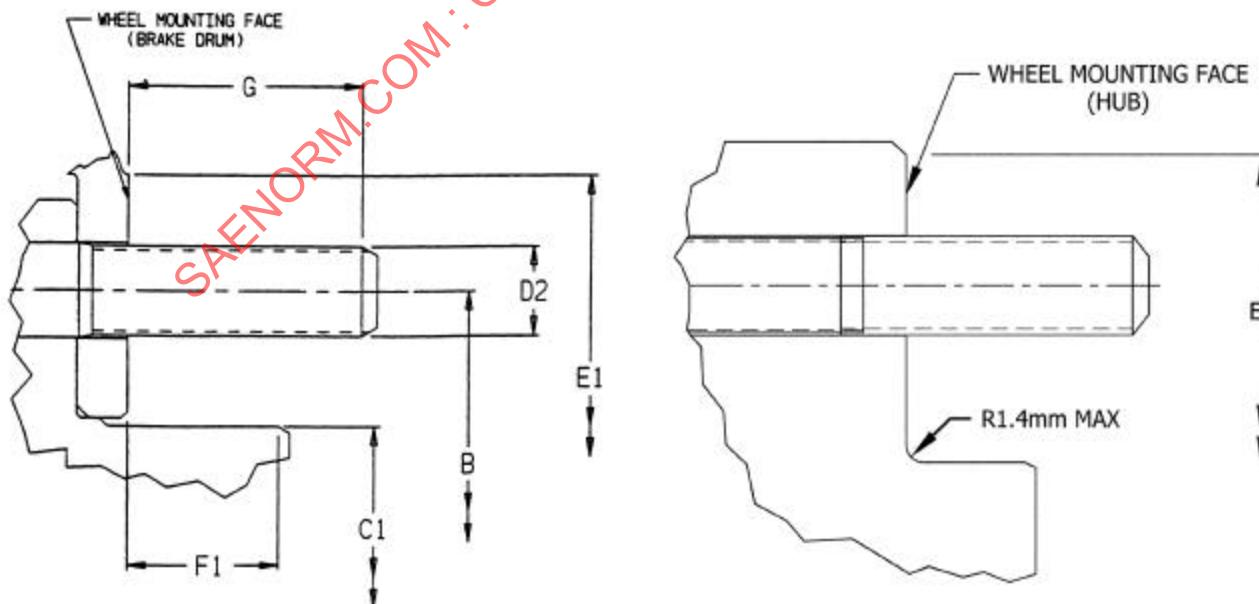

FIGURE 7—HUB OR DRUM INTERFACE DIMENSIONS
6.2.1 DEFINITIONS OF HUB OR DRUM INTERFACE DIMENSIONS—Reference Figure 7.